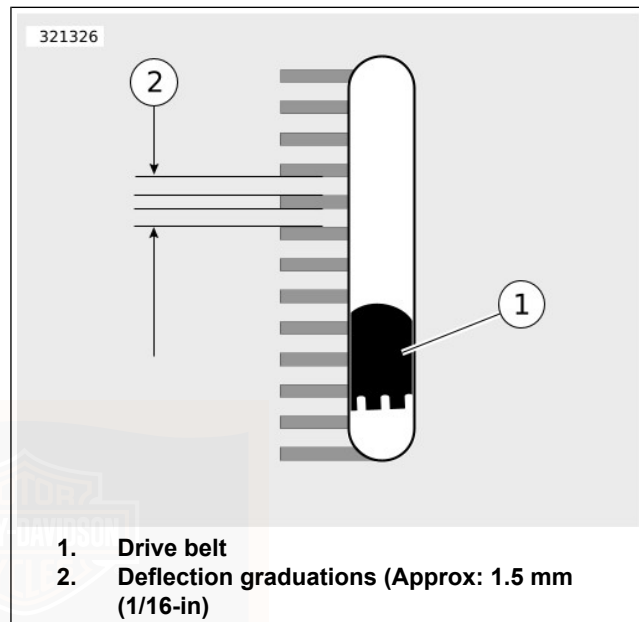

Figure 100. Belt Deflection Window
- b. **All other models:** See Figure 100. Measure amount of deflection (4) while holding gauge steady.